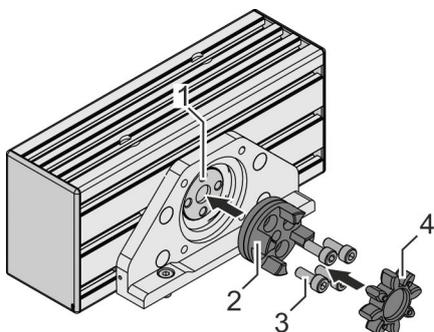

Fig. 31: Assembling the screw-in hub
1. → Place the coupling's screw-in hub (Fig. 31/2) on the timing belt shaft (Fig. 31/1).
2. → Tighten 4 screws (Fig. 31/3) alternating diagonally.
**3.** Insert the gear ring (Fig. 31/4) into the screw-in hub (Fig. 31/2).
Ensure that the clamping hub (Fig. 35/3) on the motor shaft engages correctly in the screw-in hub (Fig. 31/2) on the timing belt shaft.